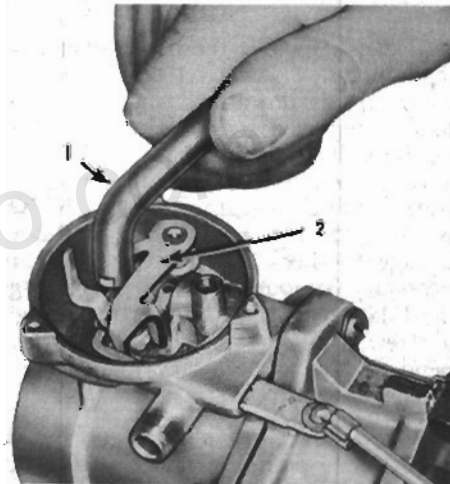

FIG. 42
If it is necessary to make an adjustment, remove the climatic control housing, gasket, and baffle plate. Then, using Unloader Adjusting Tool KMO-478 (1, Fig. 42), bend the upper finger on the choke trip lever (2) up or down as required until the correct clearance is obtained.